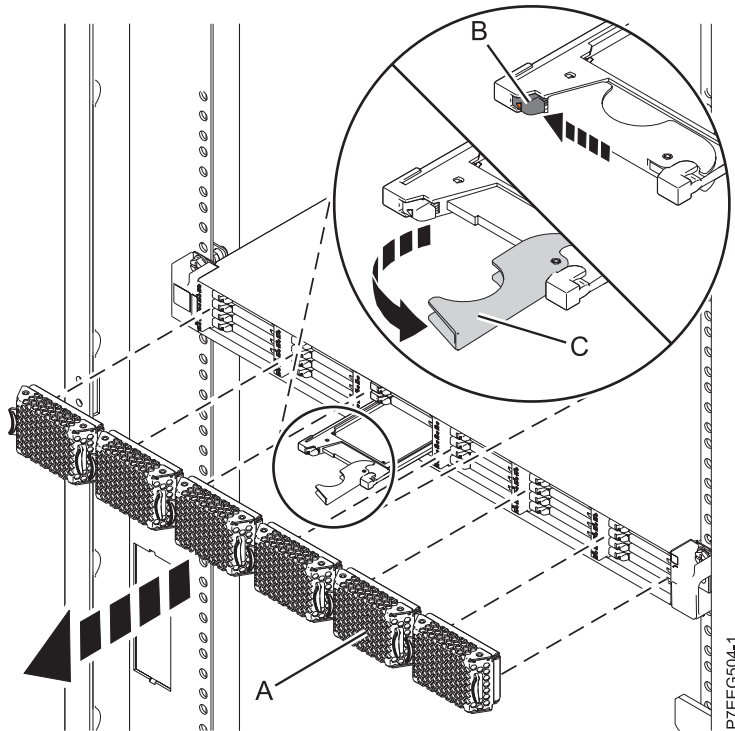

Figure 41. Removing the solid-state drive from the EDR1 PCIe storage enclosure
1. Pull off the bezel (A) that covers the slot that contains the solid-state drive. See Figure 41 on page 62.
2. Slide the release latch (B) over gently to unlock the drive handle.
3. Grasp the handle (C) and pull the drive partially out of the slot.